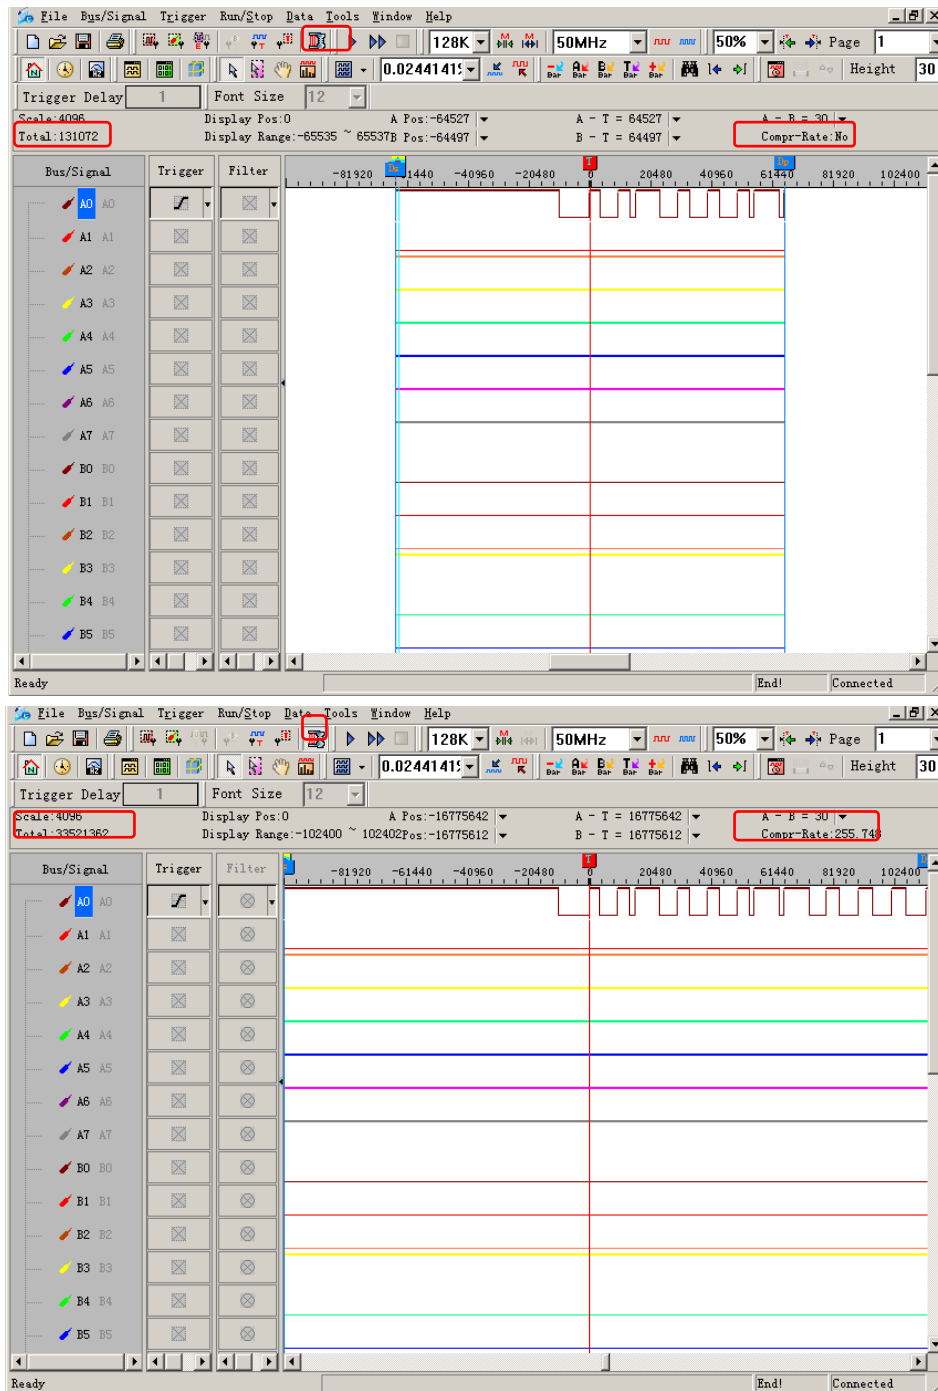

Fig 4-140 – Before and After Compression
Step4. Click **Run**, and then activate the signal from the tested circuit to acquire the result on the waveform display area. Fig 4-140 shows the result before and after compression has been applied.